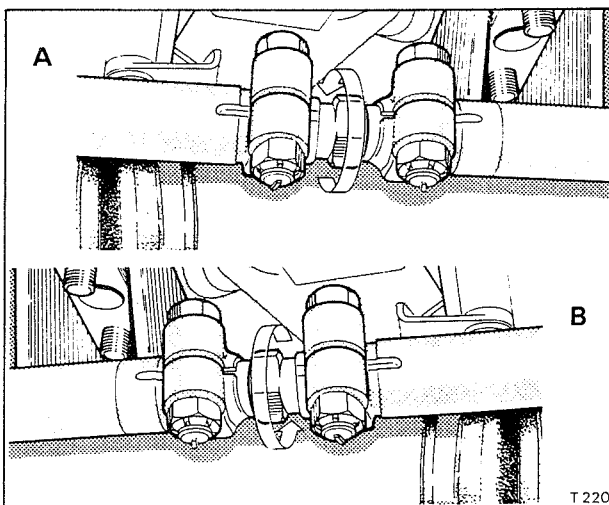

Fig. H20 Track rod toe-in adjustment
5. If adjustment is necessary, slacken the pinch bolts securing the track rod adjusters (see Fig. H20). Rotate